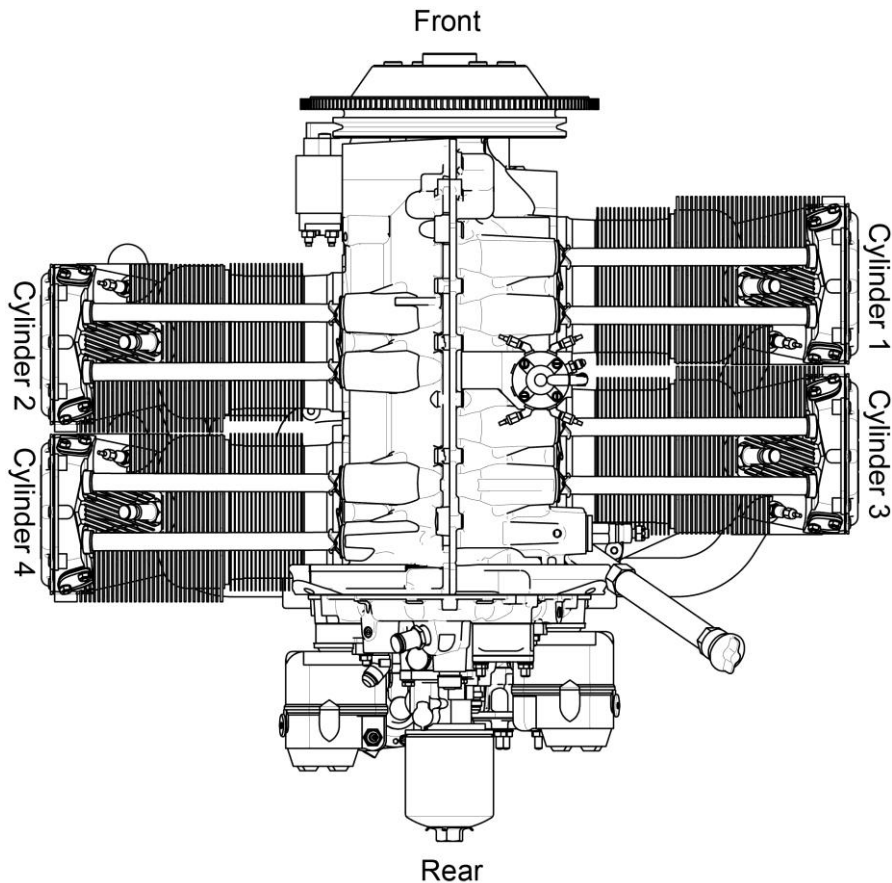

Figure 9
- When viewed from the top of the engine, the left side cylinders are 2-4. Cylinder 2 is at the front of the engine (Figure 9).